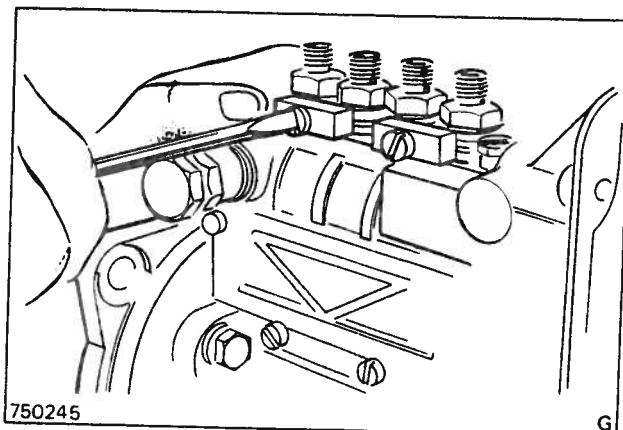

Fig. 49 Removing the delivery valve holder clamps
7. Remove the delivery valve holder clamps, Fig. 49. Unscrew the delivery valve holders with a socket wrench and remove the valve holders and springs.